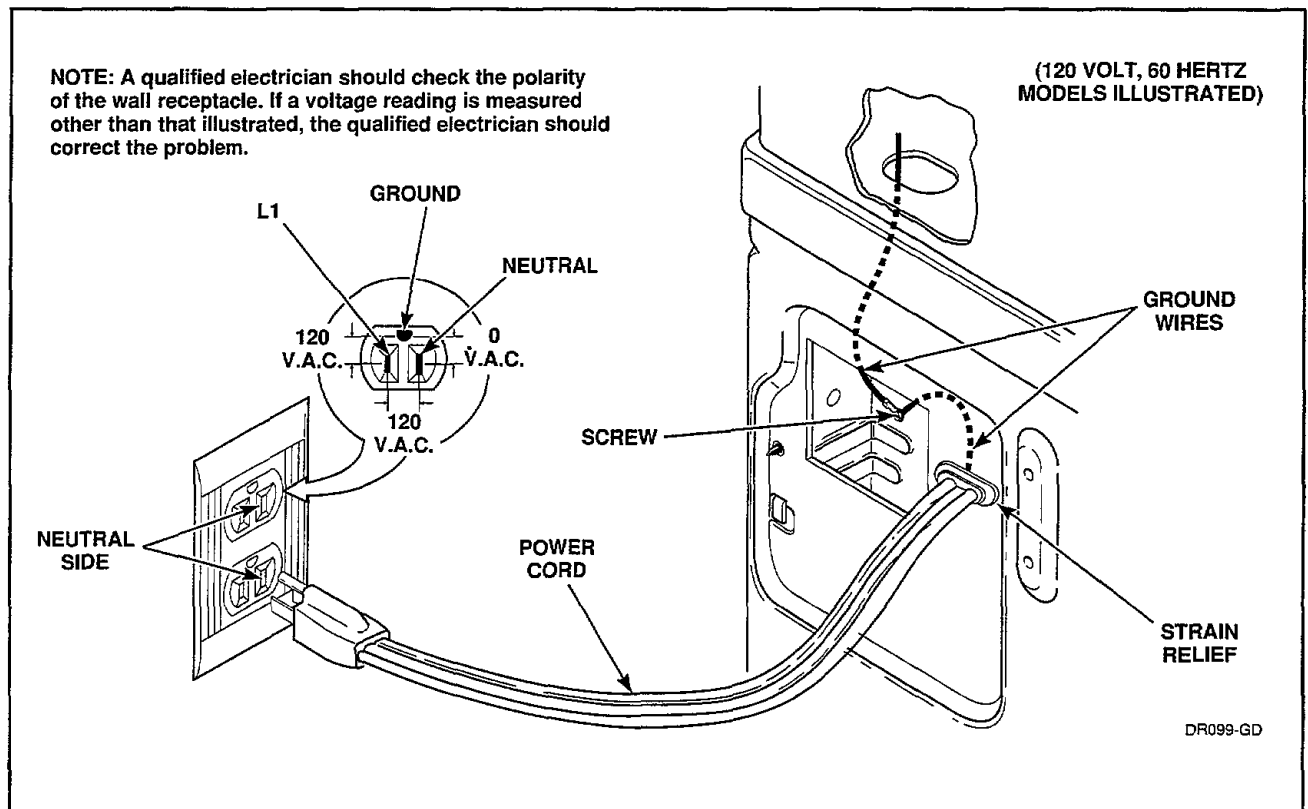

Figure 40
- (1) Remove access plate on rear of cabinet.
- (2) Remove strain relief.
- (3) Remove screw holding power cord ground wire to rear bulkhead, *Figure 40*.